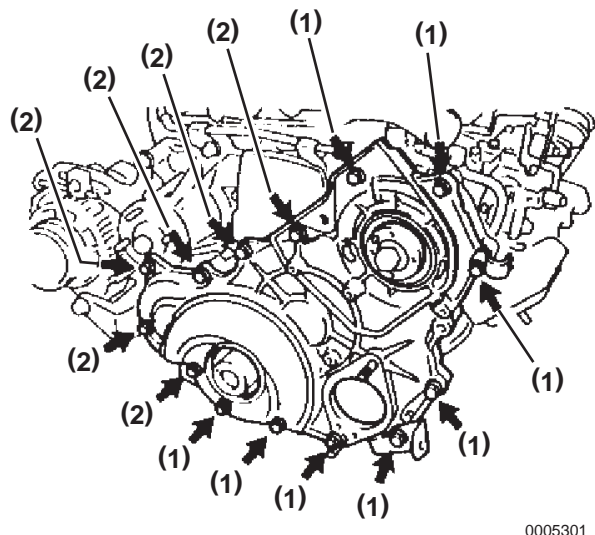

Figure 5-216
14. Apply the seal packing (TOYOTA P/N 08826-00080 or equivalent) to the timing gear cover as shown in **Figure 5-216**.
- Attach a nozzle cut to a sealing width of 2 to 3 mm (0.078 to 0.118 in.) **(Figure 5-216, (1))**.